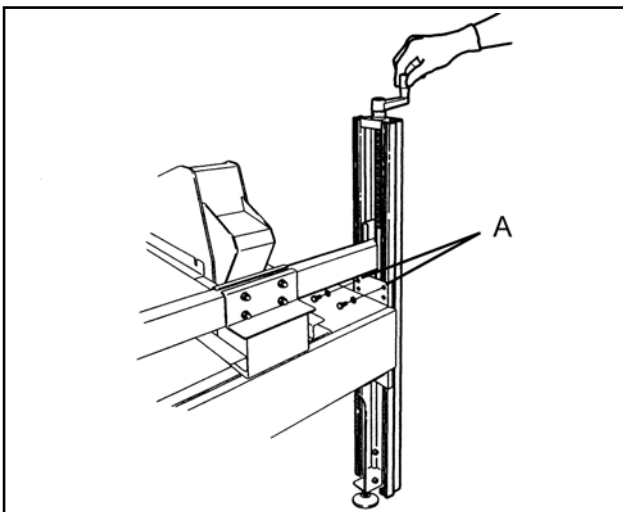

Figure 2-8 – Fasten the Column
4. Turn the handle counterclockwise to raise the column until it is aligned with the holes, as shown in Fig. 2-8.